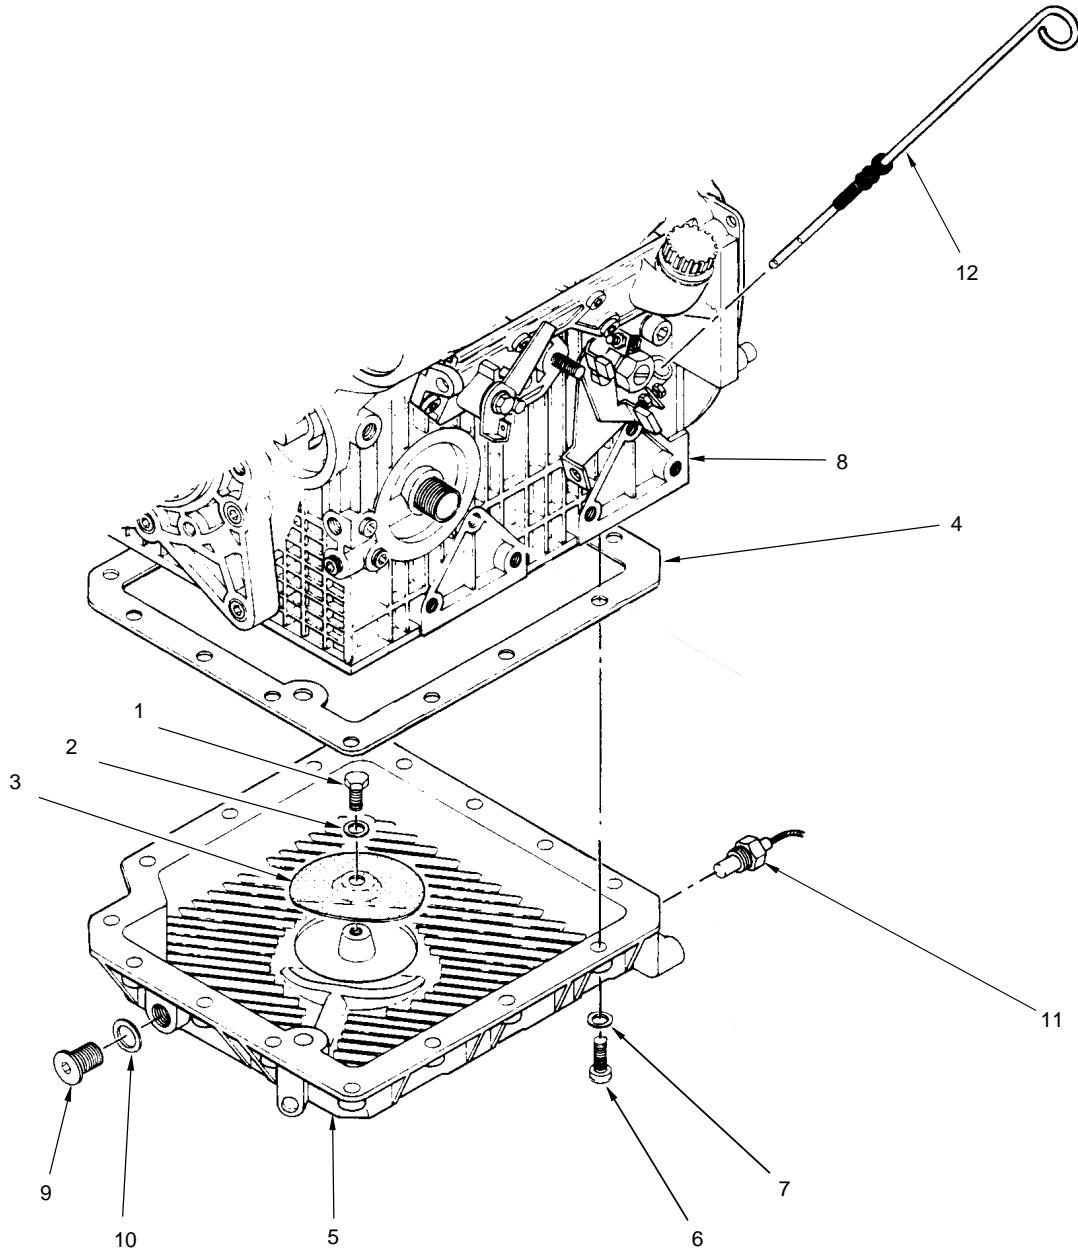

Figure 29. Oil Pan Installation
**INSTALL OIL PAN** (Refer to Figure 29.)